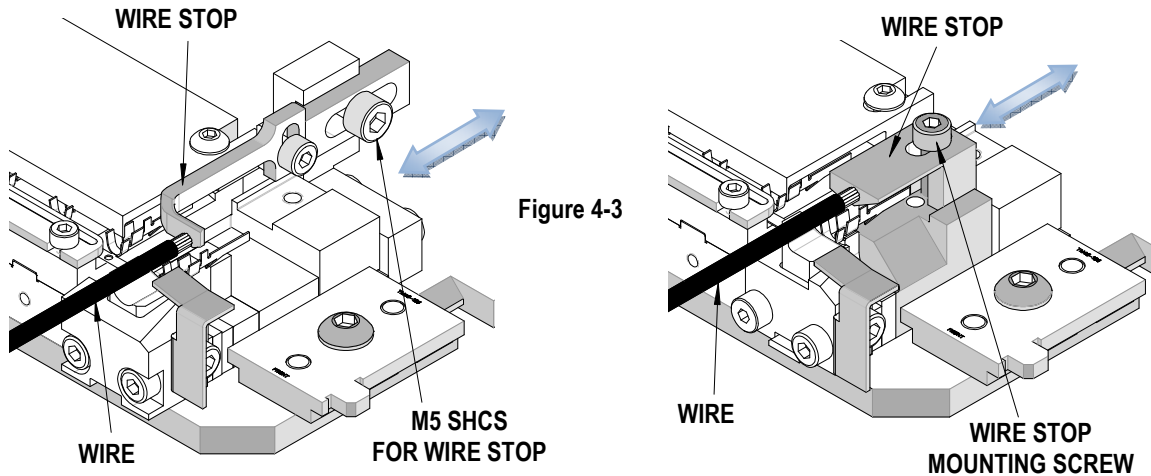

Figure 4-3
6. On the T2 tooling, use a 4mm hex wrench to loosen the M5 socket head cap screw located on the side of the anvil mount. See Figure 4-3.